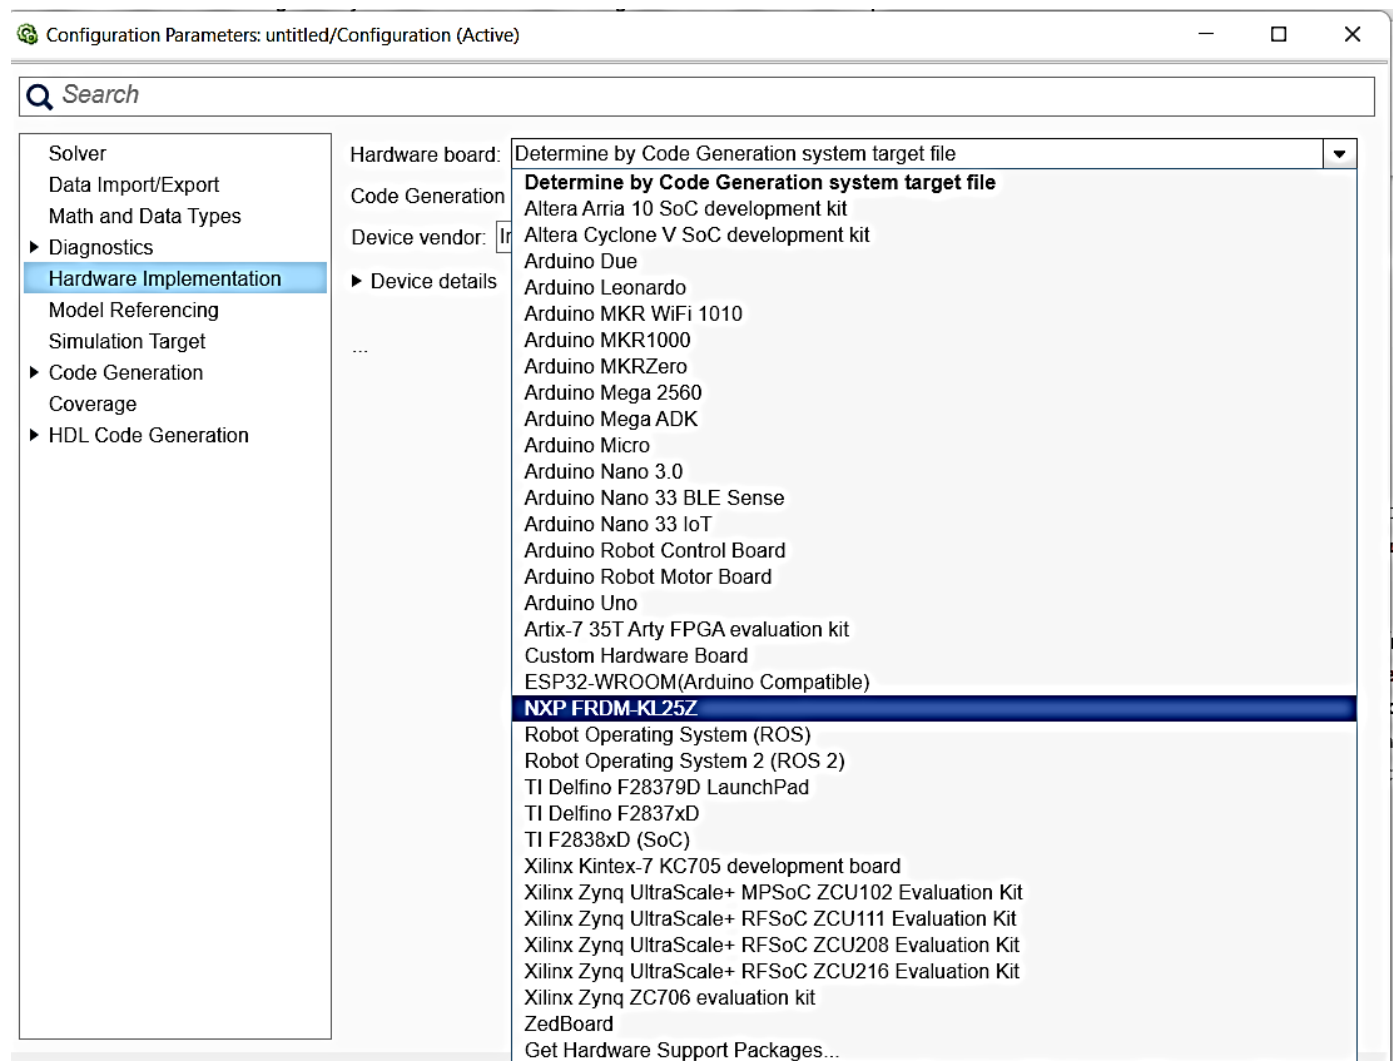

Figure 2 - Example of supported platforms
- You can choose any platform that can be connected to the MATLAB from the below list in **Figure 2**.